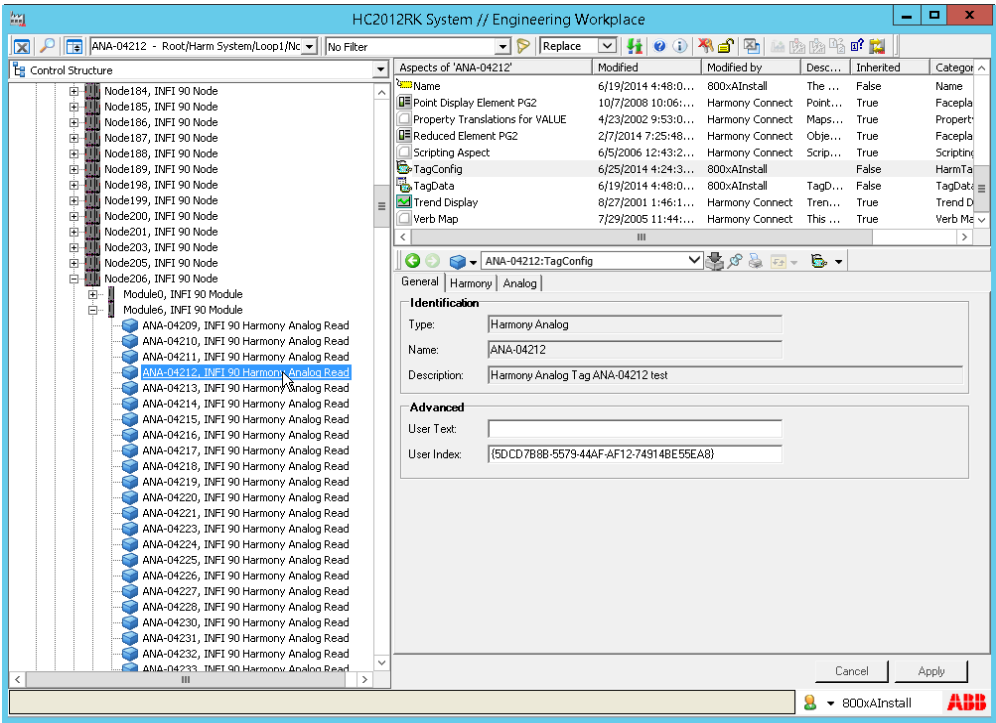
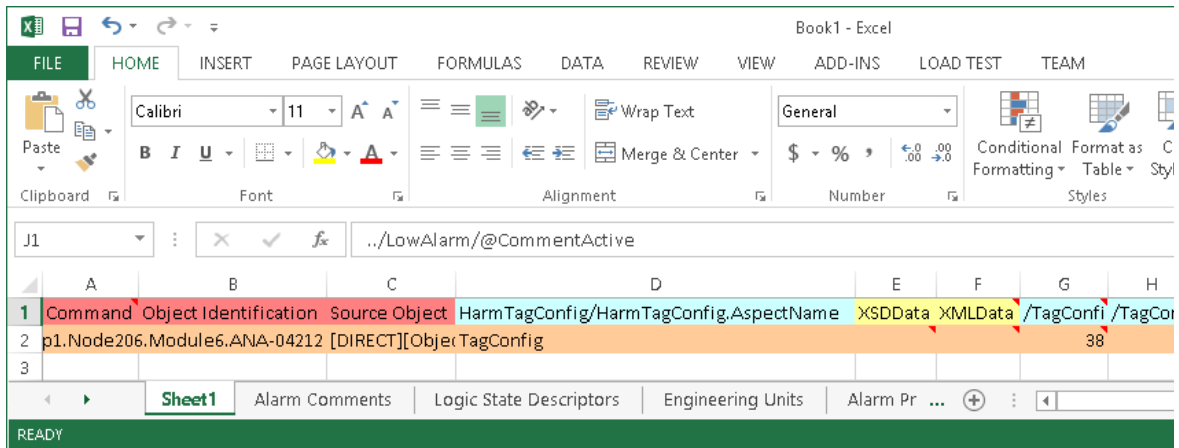

Figure 46. Selecting the Desired Harmony Tag Object
Figure 47. Excel Sheet Showing the Desired Harmony Tag Object
- 6. From the Engineering Workplace, drag the desired Harmony Tag Object and drop it into cell A2 of the Excel worksheet as shown in Figure 46 and Figure 47.